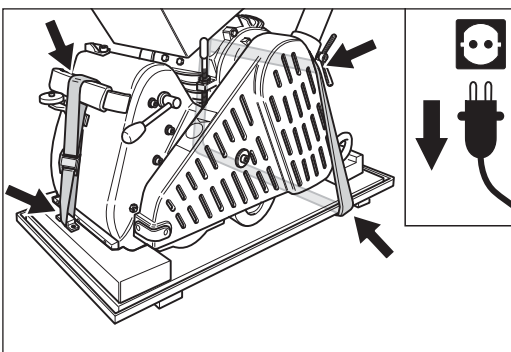

Fig. 38 Transport or storage of the machine on the bottom part of the transport crate.
- During transport or storage, the machine can also be firmly lashed to the bottom part of the supplied transport crate using two belts (Fig. 38)! This will prevent damage to the sanding drum and stop the wheels becoming out of round!
When storing for long periods, place the machine on the bottom part of the supplied transport crate (Fig. 38)! This will prevent damage to the sanding drum and stop the wheels becoming out of round!